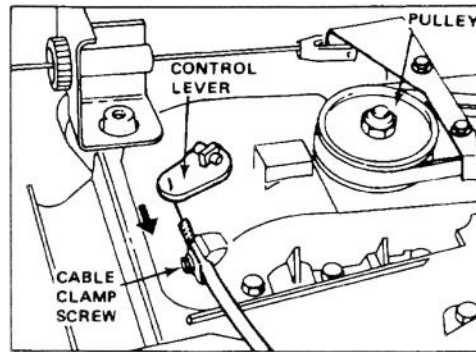

Figure 25
3. **ADJUSTMENT** (Fig. 25) — Loosen cable clamp screw until cable conduit slides. Push transmission control lever toward cable clamp screw and hold lever in place. Pull cable to remove slack and tighten clamp screw.
4. **CHECK ADJUSTMENT** — Assure ground speed control is in "N" and pull mower backward: Pulley (Fig. 25) should not rotate. If pulley does rotate, readjust for neutral: refer to step 3.